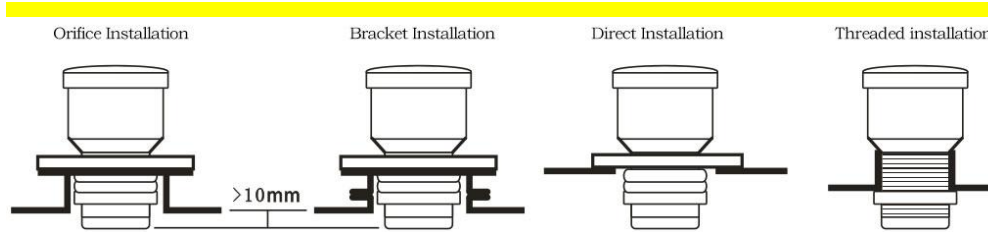

Figure 3
7.1.3 The probe can be installed with flange or standard M602 thread (installation interface and physical object shall prevail). Whether it is flange installation or thread installation, or whether the cone is selected, the bottom of the probe highlights the bottom of the process interface. Figure 3 illustrates the correct installation method.